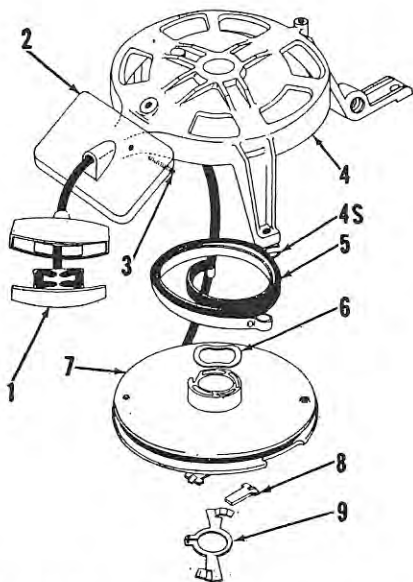
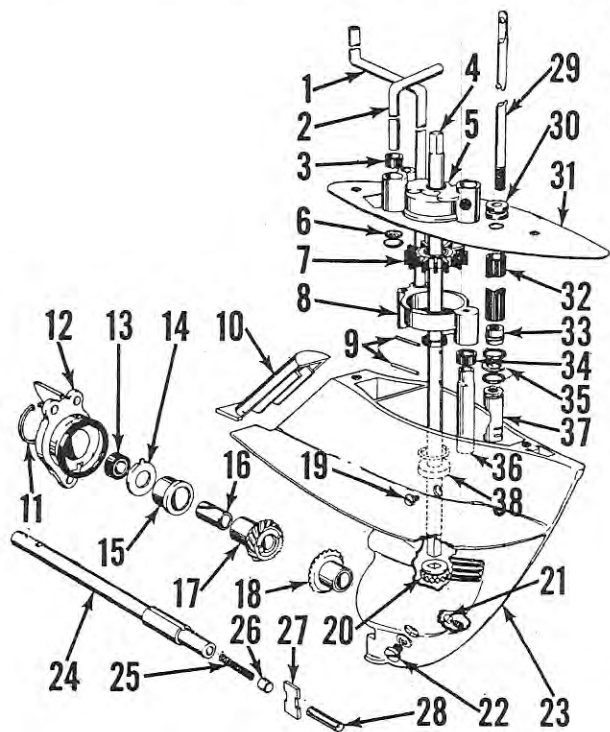

Fig. Mc67 — Exploded view of lower motor housing used on Fishing Scott models.
Fig. Mc66 — Exploded view of lower unit gearcase, water pumps and associated parts used on Fishing Scott except some 1963 models. Refer also to Fig. Mc68A.
Fishing Scott Except Models 63300750 and 63300760. Use Figs. Mc66 and Mc67 as a guide when overhauling the lower unit. To renew or service the propeller shaft, reverse gear or bearings, first drain the lubricant and remove the propeller and shear pin. Remove the cap screws retaining housing (12—Fig. Mc66) and remove the housing, propeller shaft (24), reverse gear (17), bushings and seals. A change was made during production, in the clutch dog (27). The original clutch dog was 0.500 in width (measured horizontally when clutch dog is in operating position). This dimension was increased to 0.550 to obtain a greater engaging area. The two styles are interchangeable and the new style should
To detach the gearcase housing from the lower unit, first remove the motor shroud and power head, then detach the lower swivel bracket (21—Fig. Mc67) from exhaust housing (4). Disconnect the lower shift rod (29—Fig. Mc66) from the actuator (13—Fig. Mc67). Remove the two cap screws securing the gearcase housing (23—Fig. Mc66) to the exhaust housing and withdraw the unit straight down out of exhaust housing. Cooling system and bailer pumps, and the drive shaft, pinion and forward gear can be removed and serviced. Refer to WATER PUMP paragraph for details. If shift rod or shift mechanism is removed, pay particular attention to the position of the shift rod (29) with relation to the selector cam (37). When assembling, turn the shift rod into selector cam until it bottoms, then back off until the offset upper end of rod is aligned with cam surface of selector as shown at (A—Fig. Mc68). Make sure seals (S) are in place. Lock the assembly in position by tightening the locknut (33—Fig. Mc66). Detent plunger (21) is retained in housing by selector cam (37) and will be released when cam is removed. Use care not to lose the plunger and spring, and make sure they are correctly installed when reassembling. When the lower unit is assembled, adjust the shift mechanism as outlined in the ADJUSTMENT paragraph.